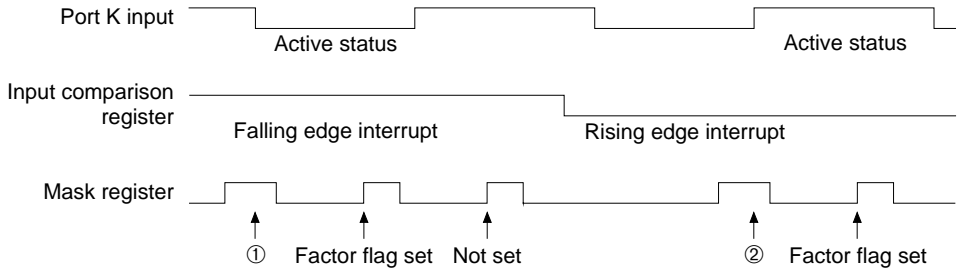

Fig. 7.1
When an interrupt is triggered at the falling edge of an input terminal, a factor flag is set with the timing of ① shown in Figure 7.1. However, when clearing the content of the mask register with the input terminal kept in the low status and then setting it, the factor flag of the input interrupt is again set at the timing that has been set. Consequently, when the input terminal is in the active status (low status), do not rewrite the mask register (clearing, then setting the mask register), so that a factor flag will only set at the falling edge in this case. When clearing, then setting the mask register, set the mask register, when the input terminal is not in the active status (high status).
When an interrupt is triggered at the rising edge of the input terminal, a factor flag will be set at the timing of ② shown in Figure 7.1.